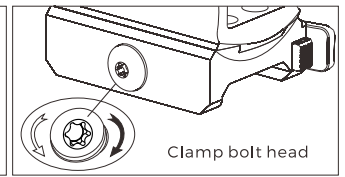

Fig 4-2
- 1) There is one Torx socket at the end of clamp adjusting bolt on the side of the mount. (See Fig 4-2) Before installation, loosen the bolt to release clamp using included Torx wrench.